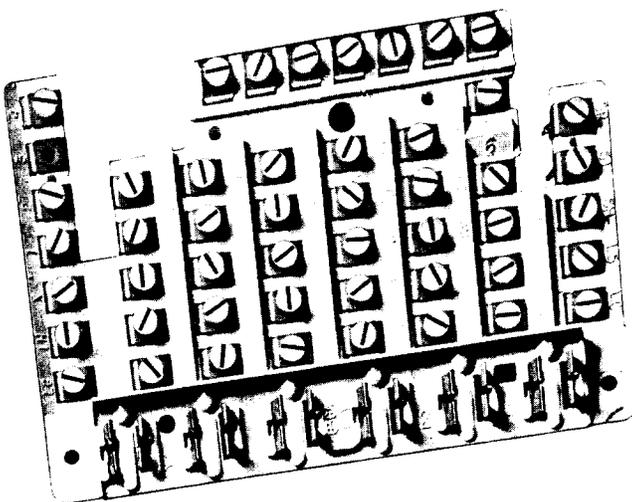

Fig. 6—636A Key, Top View
2.10 The 636A key (Fig. 6 and 7) used in these sets provides hold and five line pickups. The last three pickup keys may be converted to common or private line signaling.